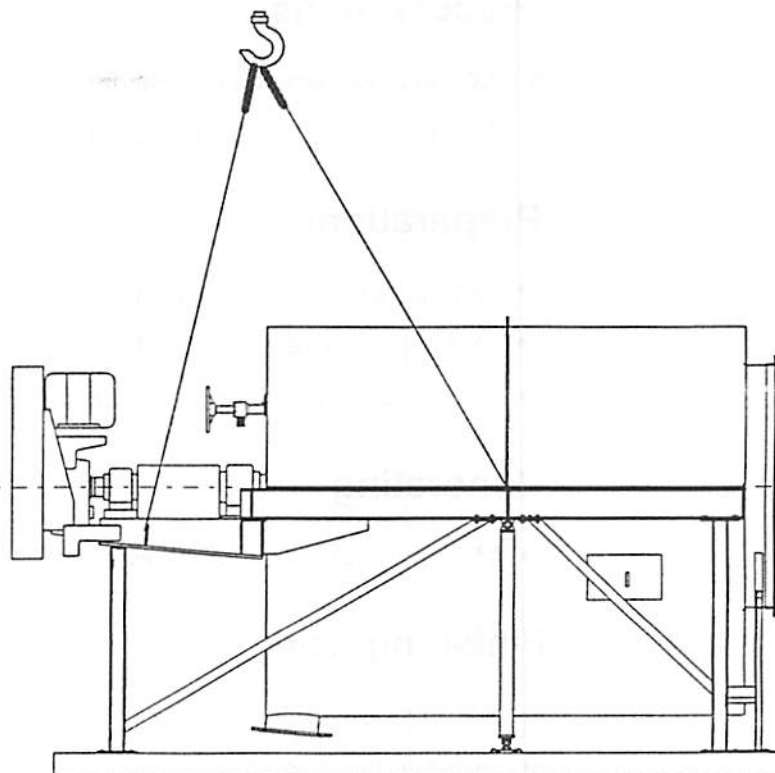

Fig. 5-1 Correct transportation of the machine
- Hook drum screen on a crane (⇒ Fig. 5-1, Correct transportation of the machine on page 5-1).